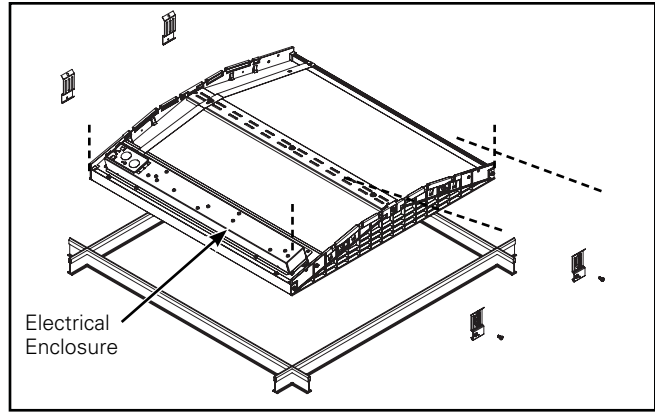

Figure 2. Install in Ceiling T-Grid System
3. Install the luminaire into the ceiling T-grid system. Ensure that luminaire sets snugly in T-grid system (Figure 2.). Ensure that all luminaires in an area are oriented in the same direction.